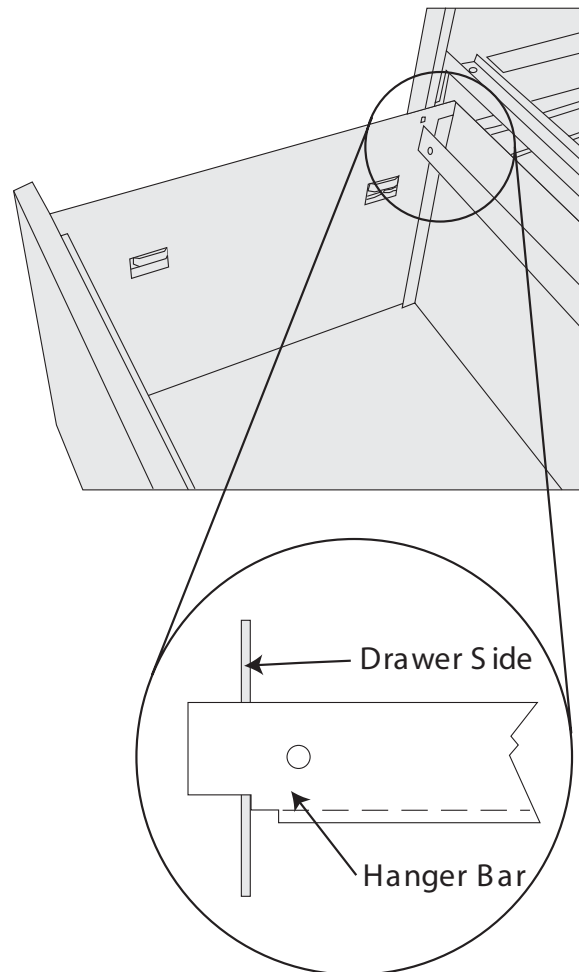

Figure 7
6. Fully extend slides, then drop the drawer onto the slides. Fit the lances of the drawer slide into the embossed pockets in the slide (see figure 7).